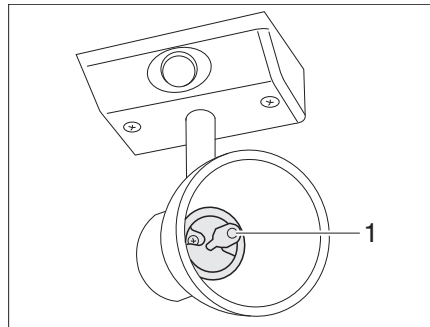

Fig. 106 Halogen spotlight (with glass shade)
- Pull the halogen bulb (Fig. 106,1) forward out of the socket.